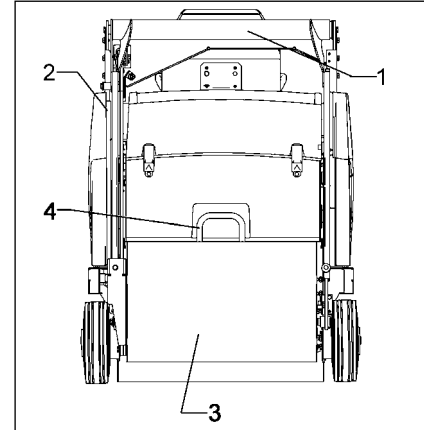

Fig.9
- Dirt hopper (Fig. 9/3) is lifted-out
Should the dirt hopper not be completely emptied after swinging, proceed to manual shaking with the handle (Fig. 9/4).